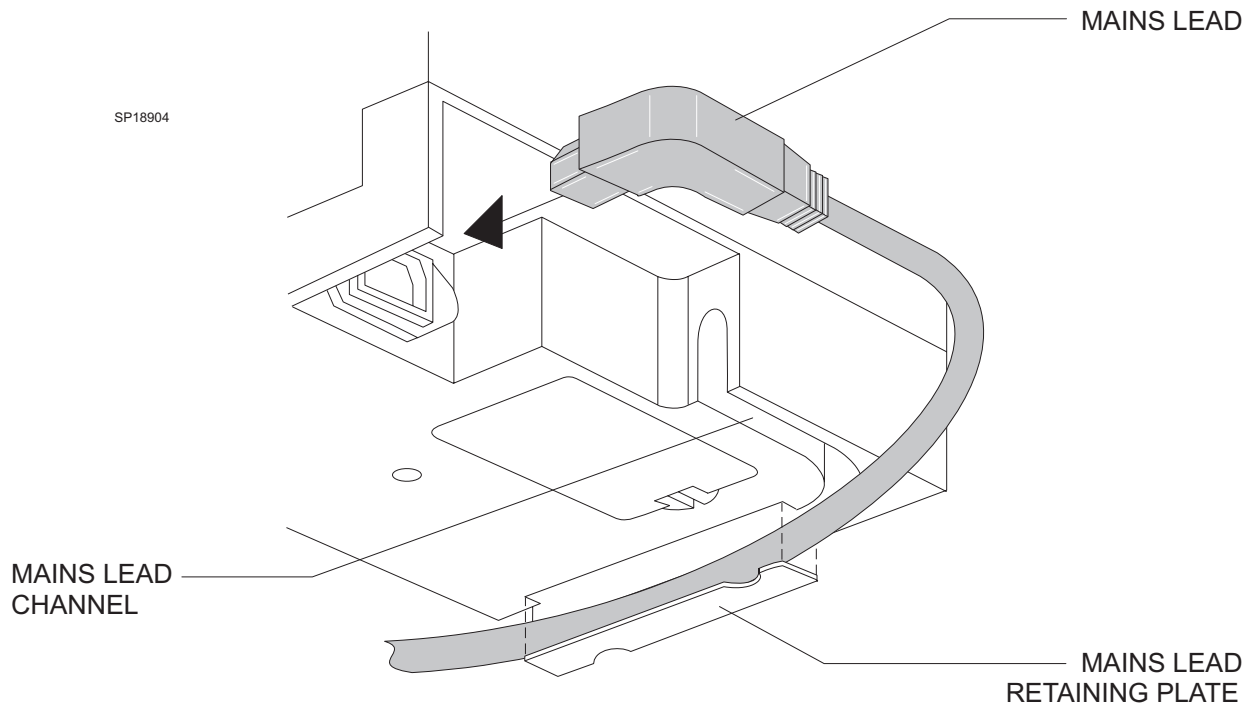

FIGURE 4. Fitting the Mains Lead
3.3 Remove the mains lead retaining plate illustrated in Figure 4. Fit the power cord to the channel, and then reinstall the power cord retaining plate.